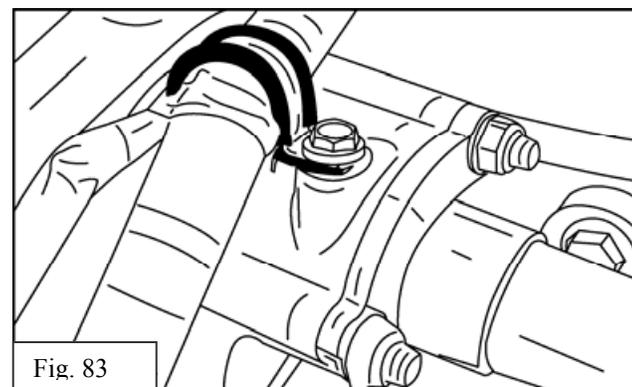

Fig. 83
- (g) Add wire clamp to A/C line at the supercharger front bearing bracket. Reuse OE 6mm bolt removed from alternator in previous step to fasten clamp to cast aluminum SC bracket. Use 2 small TRD-provided zip ties to secure CPS wire to wire loom. Keep wires and wire connectors strain-free and away from the exhaust manifold heat and drive pulley as much as possible. See Fig. 83